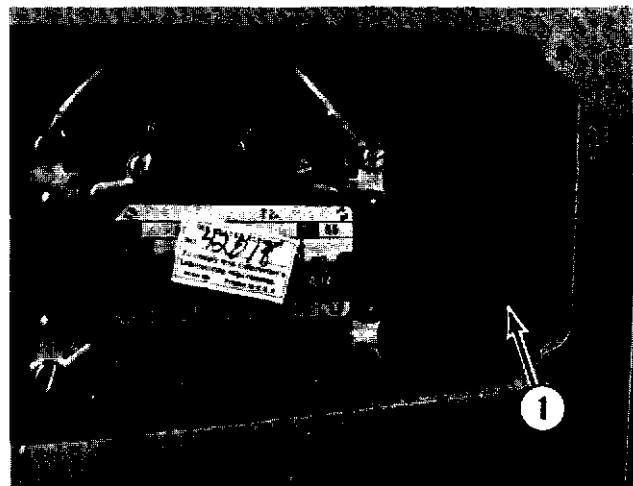

Fig. 7-12
- (2) One of the lower bolts (1, Fig. 7-12) is reached by removing the clutch handle and name plate. Also the contactor on non-solid state machines.